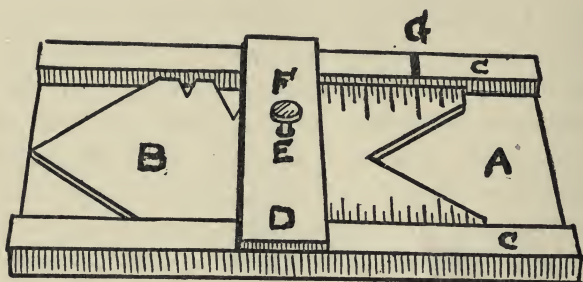

Fig. 54.—Depth and Taper Gauge.
Now for a depth and taper gauge. The only reliable one for this purpose that I have ever seen was shown me by its inventor, E. R. Letterman, of the Chicago Fly-Casting Club. Mr. Letterman gave me permission to make one like his and to describe it for the benefit of fellow anglers. In making mine (Fig. 54) I departed from his model only in attaching the set-screw. For the base I used a piece of 1-16 inch hard brass (A). To this were riveted two strips of brass (C C) of the same thickness as the steel center gauge (B). The gauge may be had at any hardware shop